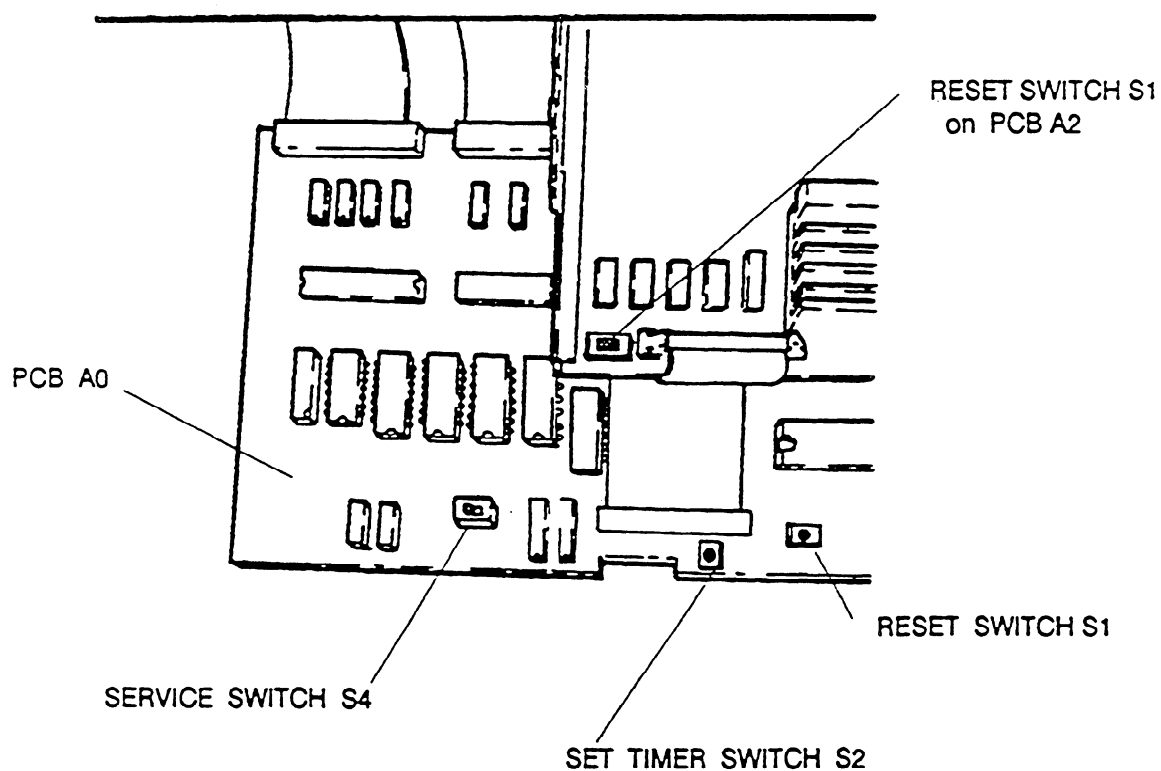

figure 57
7. Move the SERVICE SWITCH S4 on PCB A0 to the left (see fig. 57).
15. Press SET TIMER SWITCH S2 on PCB A0 (see fig 57). Keep S2 pressed.